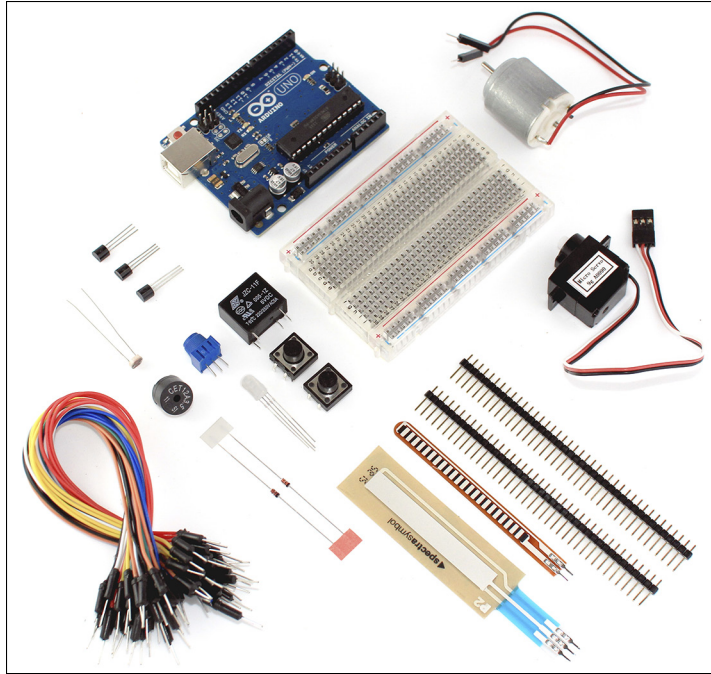

Figure 2-5:
- ✔ **Sparkfun Inventor's Kit** by Sparkfun (shown in Figure 2-5), available from <https://www.sparkfun.com/products/11227> and costing \$94.95/\$60.93/